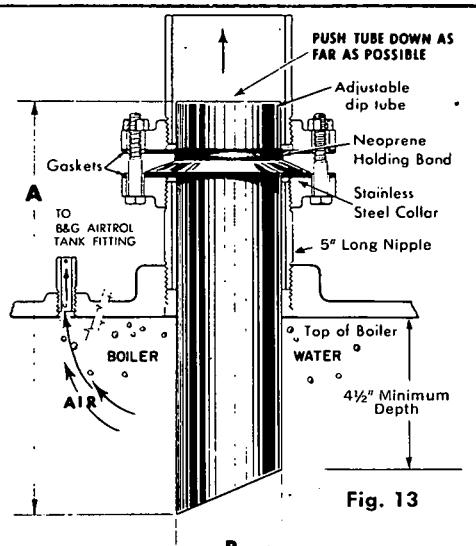

Fig. 13
4. Slip the Neoprene holding band around the dip tube and position it to hold the tube as indicated in Figure 13 at right. The Neoprene holding band will keep dip tube from slipping down too far during installation.